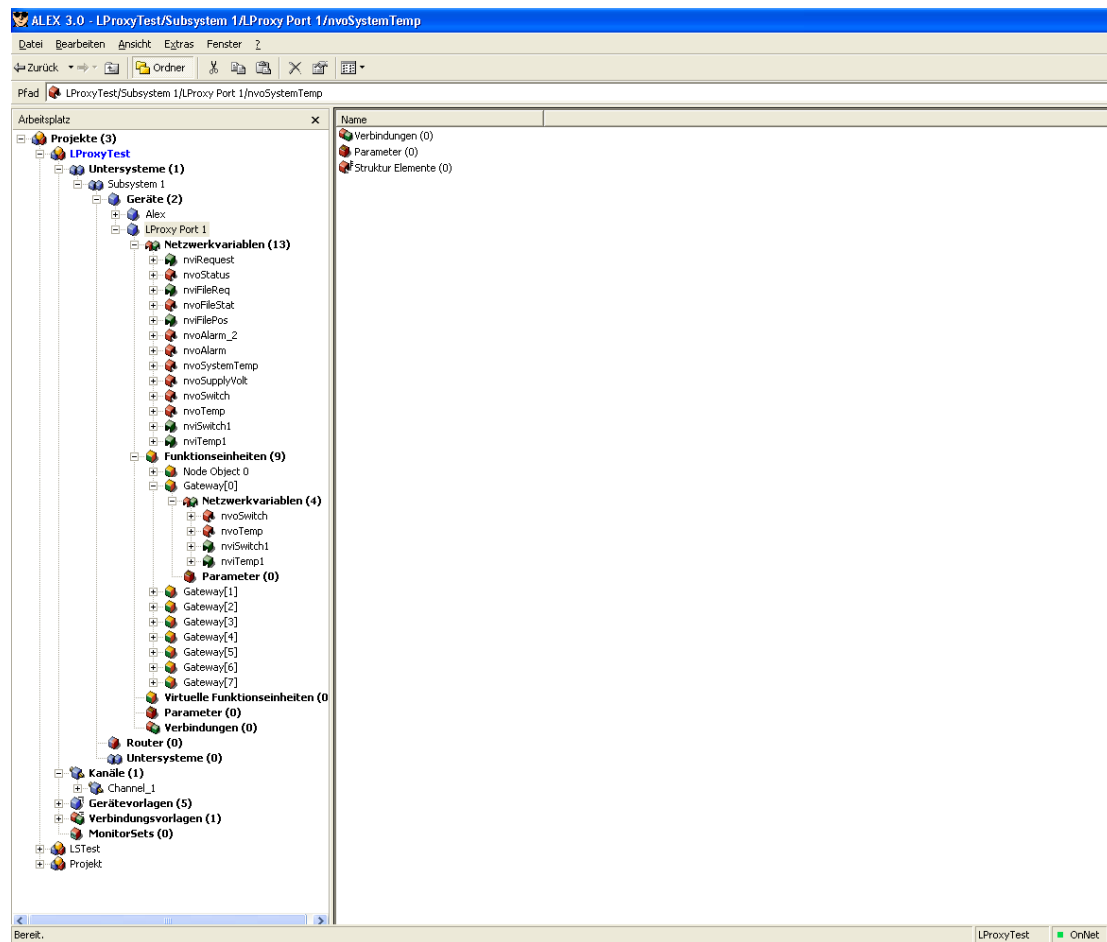

Figure 99: L-Proxy device in Alex.
1. Right-click on the device in the device tree as shown in Figure 99 and select **Ersetzen**.